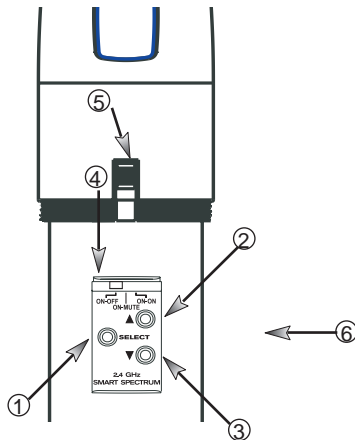
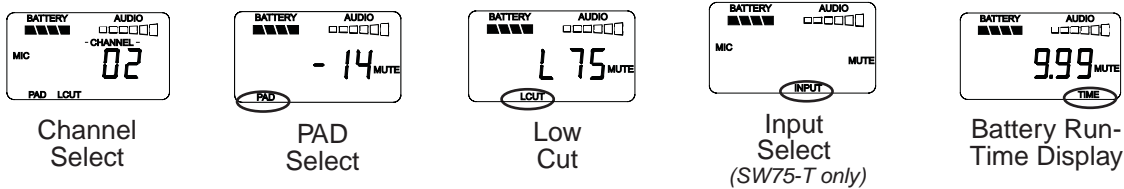
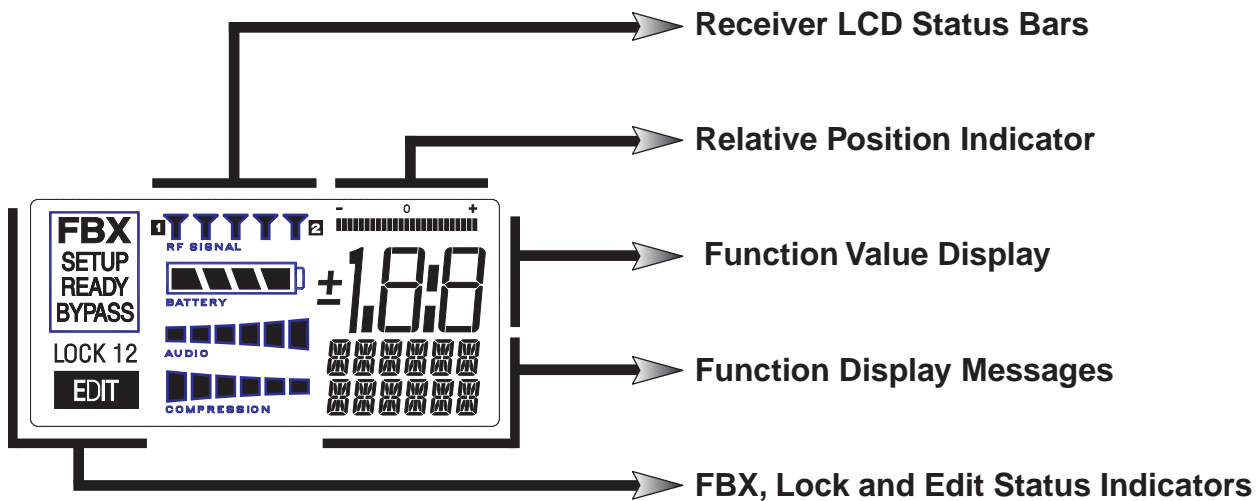

Fig. 4b SW-H series Handheld Control Setting Buttons
Fig. 4g
Fig. 5b: Receiver LCD Complete Display
Your Sabine Smart Spectrum handheld microphone and belt pack transmitter have many powerful features, all of which are easily monitored (using the transmitter LCD display) and adjusted. The controls and displays for both handheld and belt pack transmitters are almost identical in function, though positioning differs (compare figures 4b & 4c). The LCD display and one control switch are located on the exterior of the transmitters. A more powerful set of recessed controls is located under the hinged access panel, to prevent accidental or inappropriate alteration of settings.
When the transmitter is first turned on, it shows an initial test screen (Fig. 4f), followed by the default screen (Fig. 4g). The LCD also reverts to this default display within a few seconds after any programming changes are made with the recessed controls. The default LCD display always shows transmission channel, audio level, and battery voltage level; additional information will appear to indicate important changes caused either by user adjustments, or automatically as transmitter status changes.
PARAMETER VALUE: In default mode this indicates the RF TRANSMISSION CHANNEL chosen for the transmitter. In conjunction with the Select button (see figures 4b & 4c), this field will also display battery run-time hours, or when a low frequency roll-off filter or an attenuation (pad) is active (see Fig. 4g).
(See Fig. 4b, 4f & 4g)
1. All transmitters report two types of battery status information. The first report is the all-important voltage the battery is supplying. Second, you'll know how long the battery has been in use (battery run time hours). Each receiver channel also receives telemetry information from its associated transmitter, regarding the battery voltage, and displays the information in the receiver LCD (see figure 5b). When the voltage reaches a level indicating an estimated 30 remaining minutes of useful battery life, both transmitter and receiver automatically flash warnings in their LCD displays. As an alternative means of anticipating battery depletion, you can check the number of hours of use, by checking the transmitter LCD display (see Section 4.2.2 and figure 4g), or the Remote Control Software.
The receiver LCD display is shown below (Fig. 5b). Two-channel receivers feature two LCDs, one for each channel. The display provides a snapshot report of the condition of your wireless channel, including battery status information sent from the transmitter by telemetry.